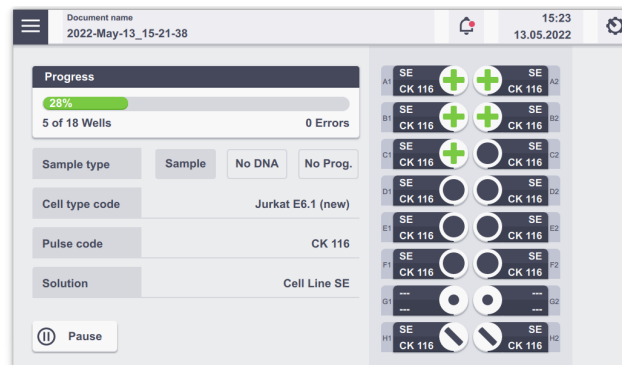

Figure 2.22: Experiment progress (X Unit).
1. After loading the samples, press “Start” to run the experiment (Figure 2.20). The progress of the experiment is indicated by changing the color of the cuvette or well positions (Figure 2.22; for color codes, see chapter 4).